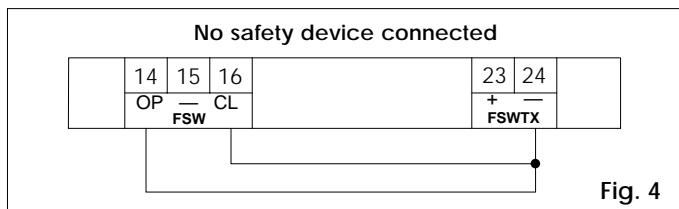

Fig. 4
N.B.: If closing safety devices are not connected, jumper inputs **OP** and **FSW TX** (fig. 4).